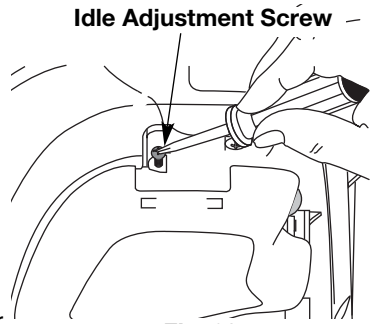

Fig. 29
The idle speed of the engine is adjustable. An idle adjustment screw is between the air filter cover and the engine starter housing (Fig. 29).
2. Release the throttle trigger and let the engine idle. If the engine stops, insert a small phillips screwdriver in between the Air Filter Cover and the Engine Cover (Fig. 29). Turn the idle speed screw in, clockwise, 1/8 of a turn at a time (as needed) until the engine idles smoothly.